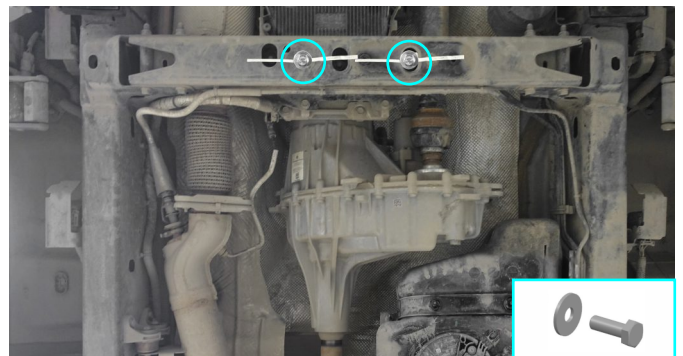

Fig. 6
6. Loosely insert supplied bolts M10x30 with flat washers M10 (items C, E) to insert nuts M10 (item A) (fig.6).